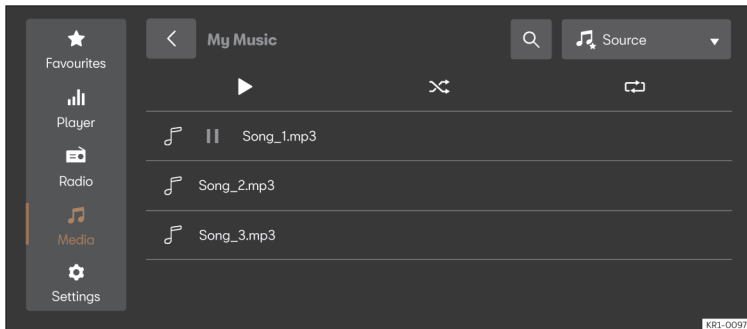

Fig. 161 Schematic diagram: Media view
- Press **HOME** > >>> **Fig. 161**.